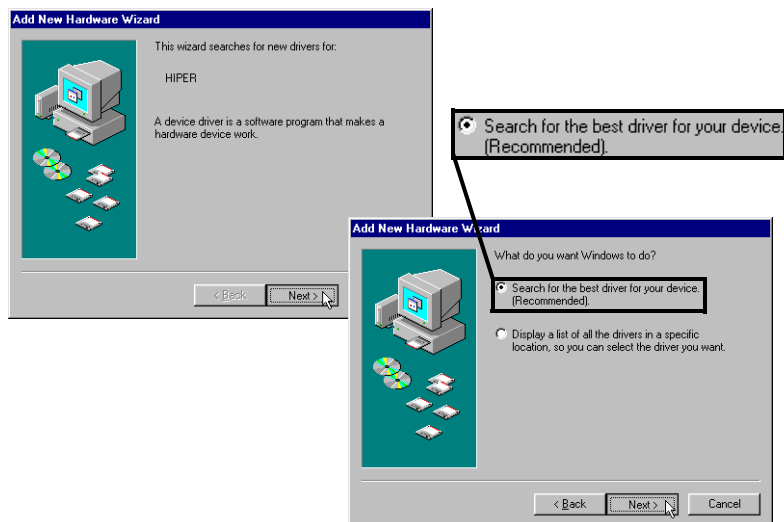

Figure C-1. Windows 98 SE – Add New Hardware Wizard and Select the Driver Search Method
2. Select *Search for the best driver for your device. (Recommended).* and then click **Next** (Figure C-1 on page C-2).